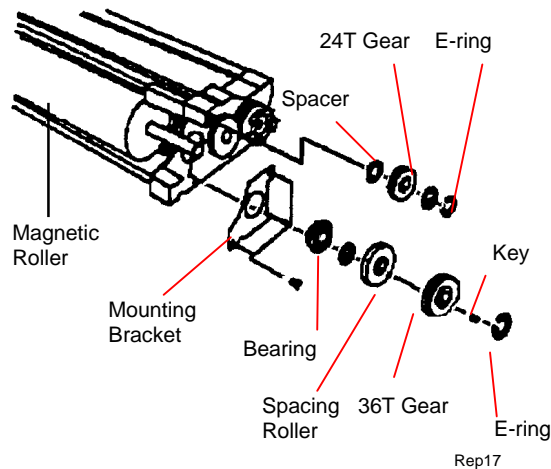

Figure 1. Removing Developer Assembly Components (Left side)
3. (Figure 1): Remove the two E-rings, two gears, three spacers, and the Spacing Roller from the right side.